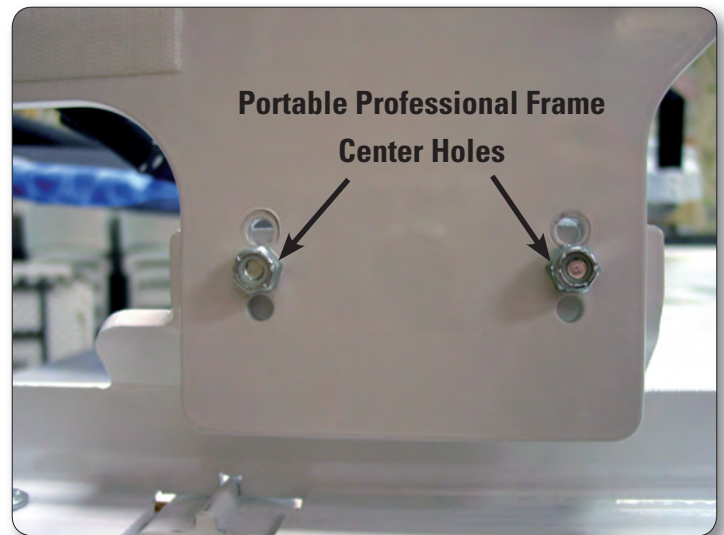

Figure 1
1. The Portable Professional Frame (Pro-Frame) side arms have three sets of height-adjustment holes. The ideal setting for the HQ Pro-Stitcher is the middle set of holes (Figure 1). This should allow the quilting machine arm to pass freely under the idler bar while keeping the quilt as close as possible to the arm. Use the 7/16" wrench to adjust the height if necessary. The ideal height allows just the tip of a finger between the idler pole and the machine.